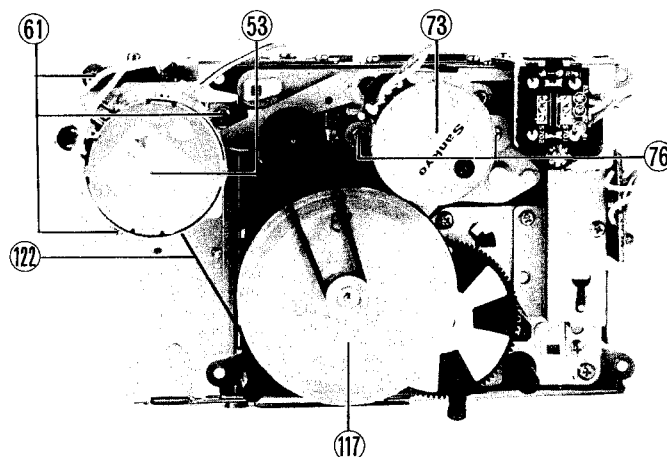

Fig. 13
**H. Capstan motor ⑤③ (Fig. 13)**
1. Remove the capstan belt ①②② .
2. Remove 3 screws ⑥① with motor bracket.
**I. Reel motor ⑦③ (Fig. 13)**
**J. Flywheel ass'y ①①⑦ (Fig. 13)**